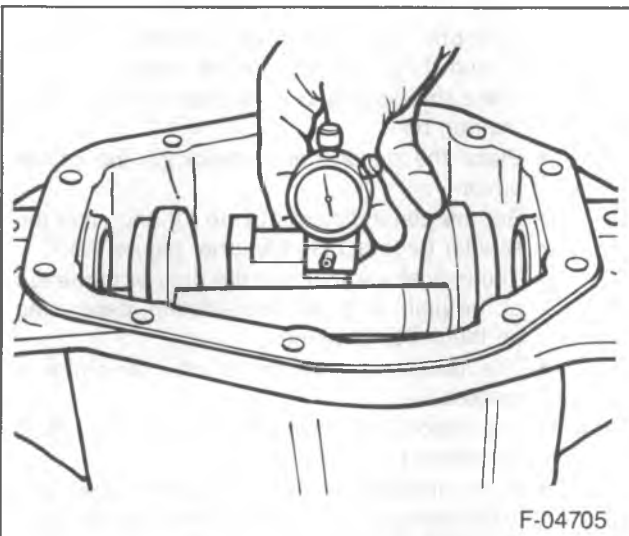

Figure 25—Scooter Gauge on the Height Block
6. Place D-115 onto the height block (figure 25).